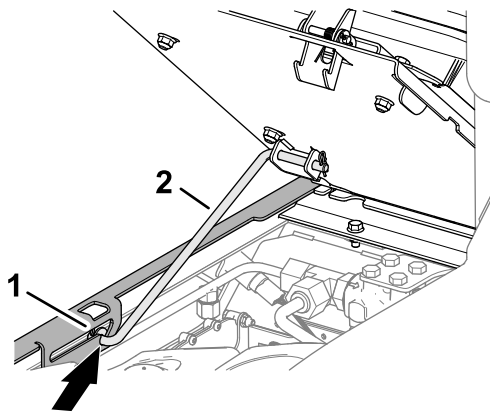

Figure 108
3. Ensure that the forward prop rod seats in the slot detent of the seat support (Figure 108).